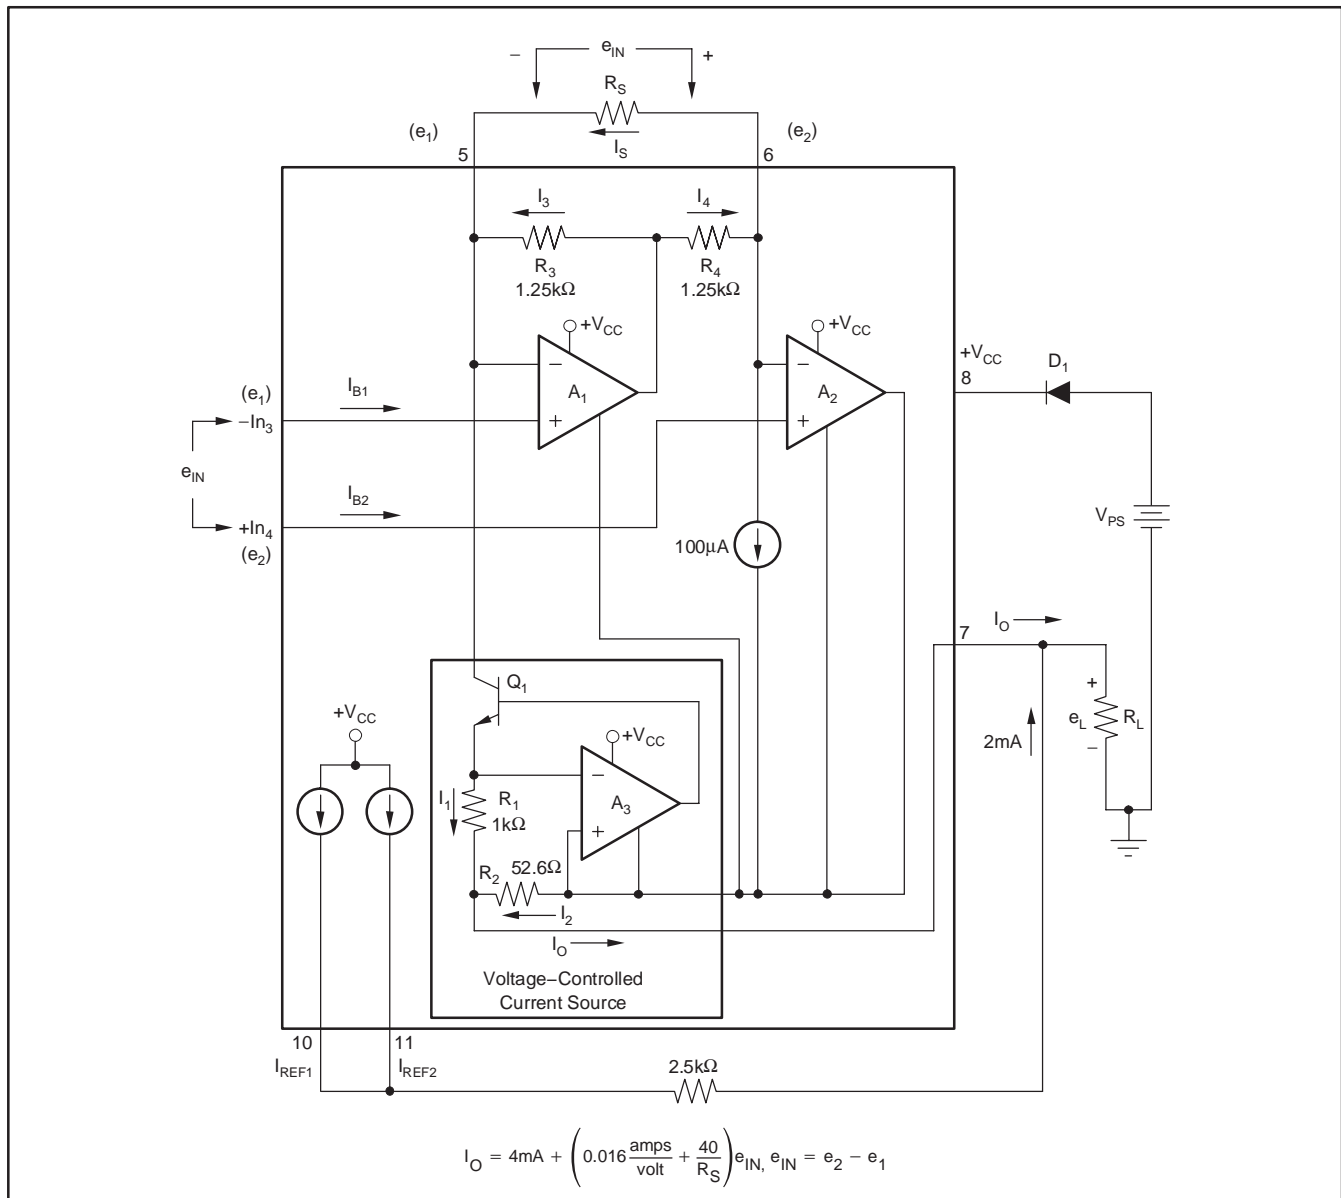

Figure 1. Simplified Schematic of the XTR101
A simplified schematic of the XTR101 is shown in Figure 1. Basically, the amplifiers A_1 and A_2 act as a single power-supply instrumentation amplifier controlling a current source, A_3 and Q_1 . Operation is determined by an internal feedback loop. e_1 applied to pin 3 will also appear at pin 5, and similarly, e_2 will appear at pin 6. Therefore, the current in R_S (the span setting resistor) will be $I_S = (e_2 - e_1)/R_S = e_{IN}/R_S$. This current combines with the current I_3 to form I_1 . The circuit is configured such that I_2 is 19 times I_1 . From this point, the derivation of the transfer function is straightforward but lengthy. The result is shown in Figure 1.
See Figure 1 for the basic connection of the XTR101. A difference voltage applied between input pins 3 and 4 will cause a current of 4-20mA to circulate in the two-wire output loop (through R_L , V_{PS} , and D_1). For applications requiring moderate accuracy, the XTR101 operates very cost-effectively with just its internal drive transistor. For more demanding applications (high accuracy in high gain), an external NPN transistor can be added in parallel with the internal one. This keeps the heat out of the XTR101 package and minimizes thermal feedback to the input stage. Also, in such applications where the e_{IN} full-scale is small ($< 50\text{mV}$) and R_{SPAN} is small ($< 150\Omega$), caution should be taken to consider errors from the external span circuit plus high amplification of offset drift and noise.
7. It is recommended that a reverse polarity protection diode (D_1 in Figure 1) be used. This will prevent damage to the XTR101 caused by a momentary (such as a transient) or long-term application of the wrong polarity of voltage between pins 7 and 8.